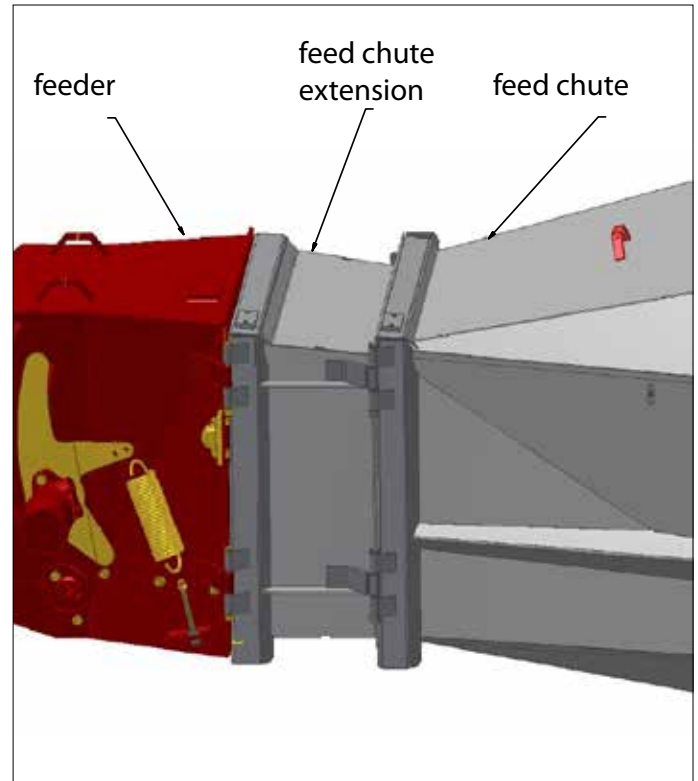

Fig 6a.
3. Attach the feed chute extension to the feeder with two M10x150 bolts and lock nuts. Fig 6a.